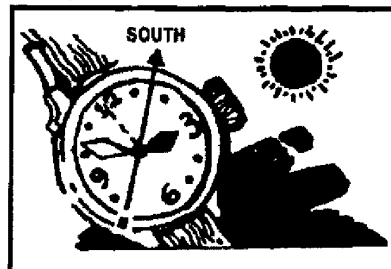

Figure C-44. Watch method
- a. Point the hour hand at the sun when you are north of the equator. South will be halfway between the hour hand and 12 o'clock (figure C-44).